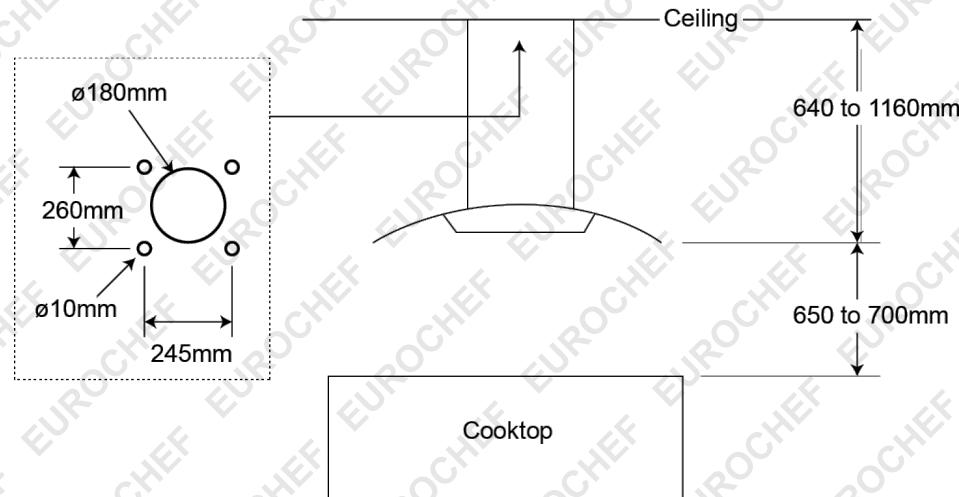

Figure 1
1. Drill 4 10mm diameter holes in the ceiling in a “rectangular” pattern, with holes 245mm apart along the front of the range hood, and 260mm apart along the side. Ensure the centre of the hole pattern is aligned to the centre of the cooktop (refer to *Figure 1*).